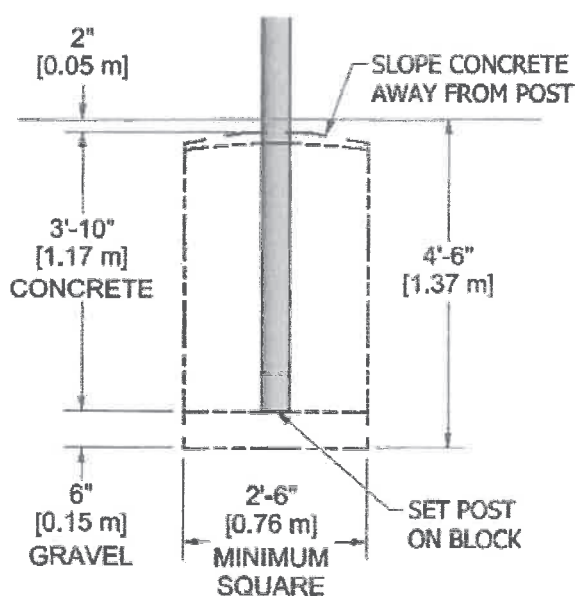

FIGURE 1 (permanent)
1. Layout the location for the holes on the field. For the Z1FGP401 series goals (4 ½" diameter post), the center of the hole must be 5'-2 ¼" behind the front of the end zone end line as shown above. Dig hole as shown in Figure 1 or Figure 2, depending on the type of post installation required. Figure 1 shows dimensions for a permanent mounting and Figure 2 shows dimensions for ground sleeve mounting.
Post Installation – Permanent Mount (Figure 1)